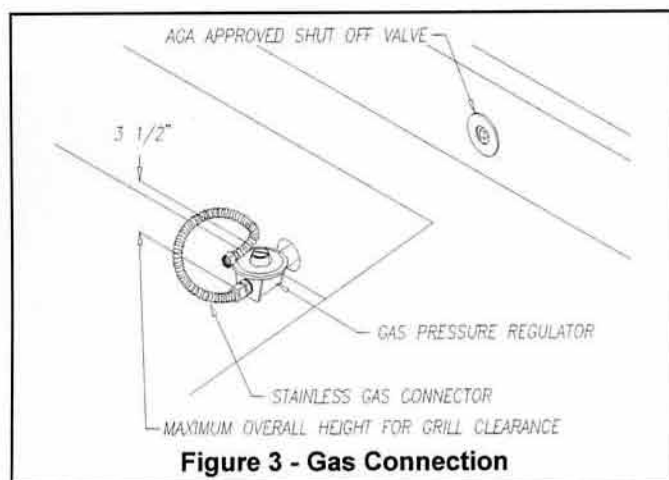

Figure 3 - Gas Connection
- 2) Connect a 3/8" stainless appliance connector to the gas supply line (down stream from the shut off valve) (**figure 3**).